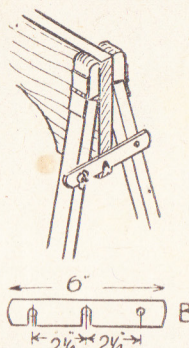

Fig. 2—Fixing details
headed screw. Do not screw right home but leave enough of the screw sticking out for the metal ties (B) Fig. 2, to slip under. These ties can be made from $\frac{1}{8}$ in. thick iron bar, about 1 in. wide. At the points shown drill three holes, the left side one $\frac{1}{8}$ in. and the rest to suit the round-headed screws already mentioned.
across the ends of each pair of legs, as in detail sketch, Fig. 2, with a stout round-headed brass screw in the right hand hole.